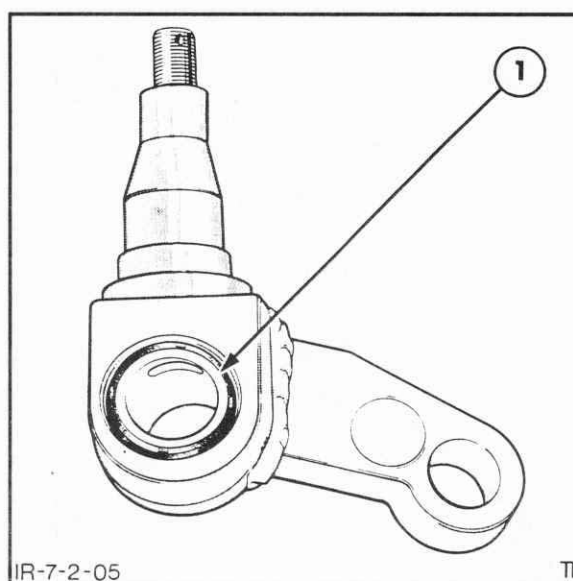

Figure 7-56
1. Press a new seal into the base of the spindle, Figure 7-56.